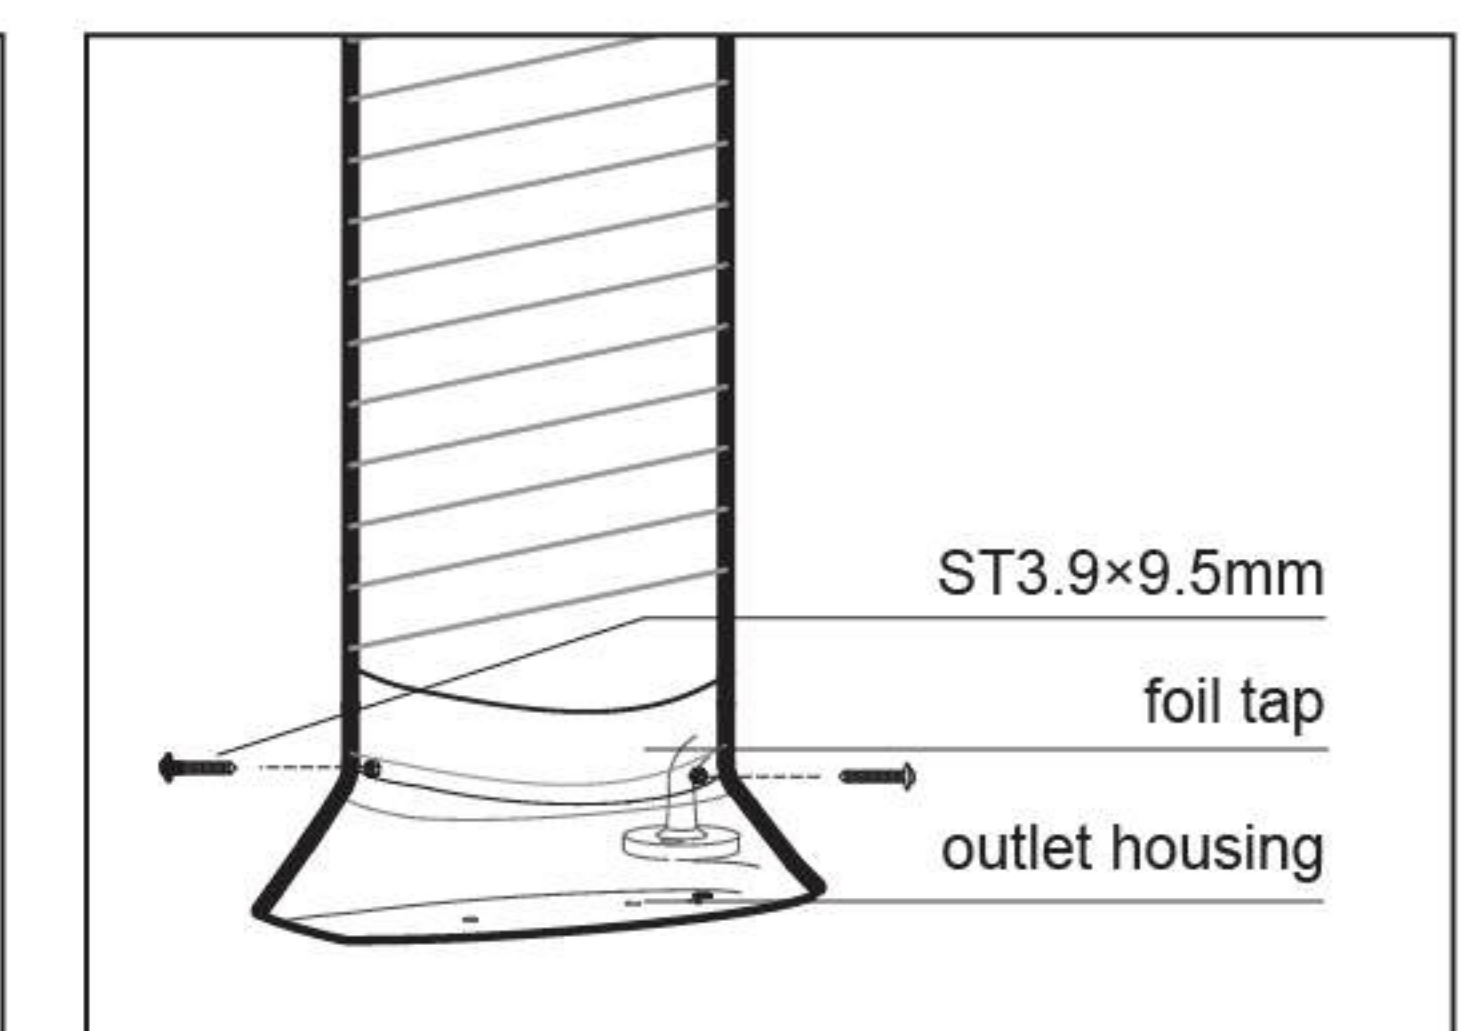

fig 9
7. Connect the exhaust duct: cut off the redundant exhaust duct or connect the smoke tube according to the actual distance, put the smoke tube into the outlet housing, then pre-fix the exhaust dust with two screws (ST3.9x9.5), and finally wrap it with foil tape for fixation and sealing; (fig 9)